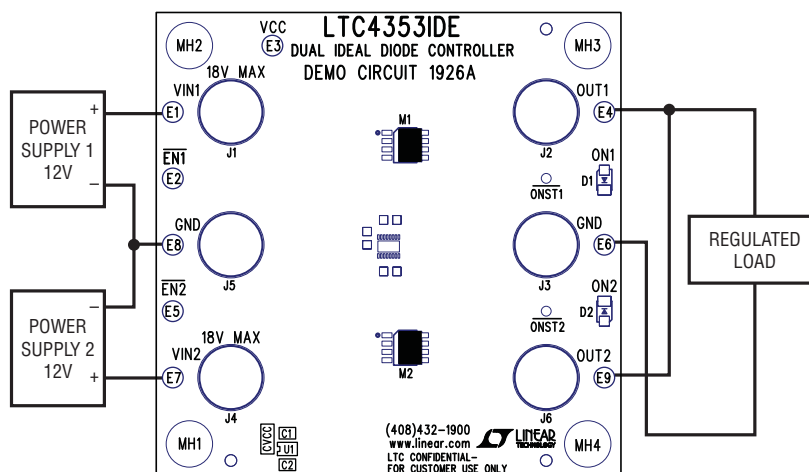

Figure 2. Ideal Diode ORing Operation
1. Connect two identical power supplies adjusted to +12V to  $V_{IN1}$  and  $V_{IN2}$  inputs and provide a load to the parallel connected OUT1 and OUT2 turrets (refer to the diagram of Figure 2). The output load current should not exceed 12A for continuous operation.